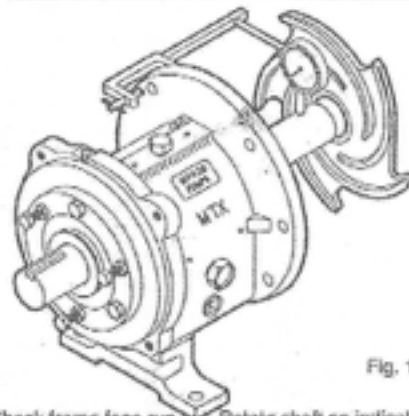

Fig. 140
3. Check shaft/sleeve runout. Put on shaft sleeve if used, and thread on impeller, hand tight. Rotate shaft 360 degrees. If total indicator reading is greater than .002 in., disassemble and determine cause. Remove impeller and shaft sleeve (Fig. 140).